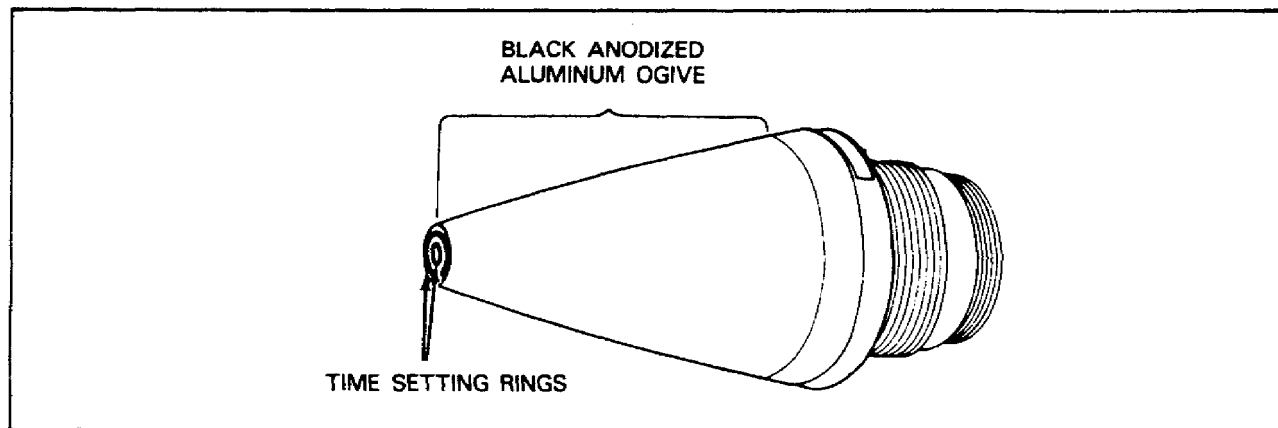

Figure 73. Electronic Time Fuze.
Electronic Time. The electronic time (ET) fuze (Figure 73) uses a time system similar to an electric digital watch. It can be identified by its black anodized aluminum ogive and the time setting rings in its nose end. To set the fuze time, a special electric fuze setter is placed over the nose end, contacting the rings.